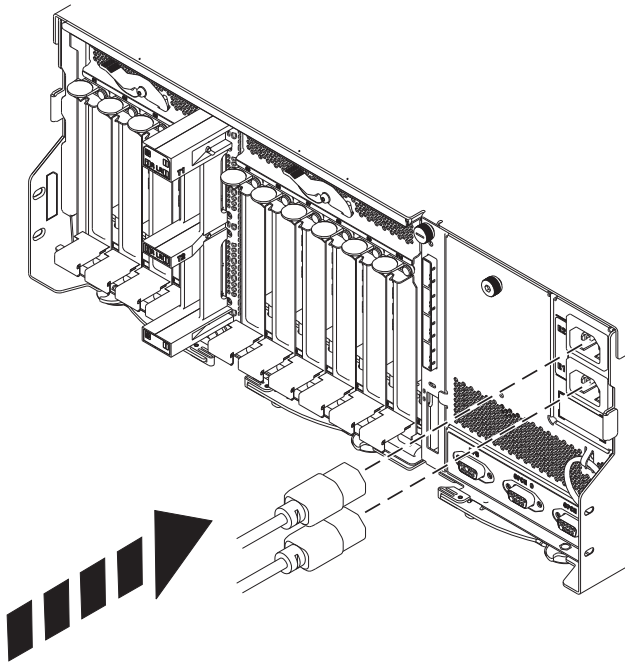

Figure 9. Connecting the power cords
11. Connect the power cords to the back of the enclosure as shown in Figure 9.